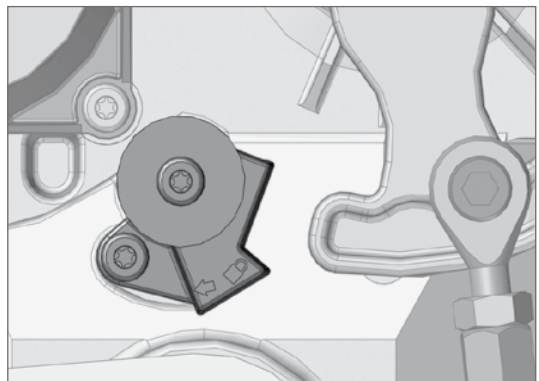

FIGURE 59. LOCK MODE POSITION (BOTTOM)
- For a right-hand boom to be placed in Lock Mode in the raised position, position the top stopper as shown in Figure 59 (similarly for the left-hand lowered locked position)